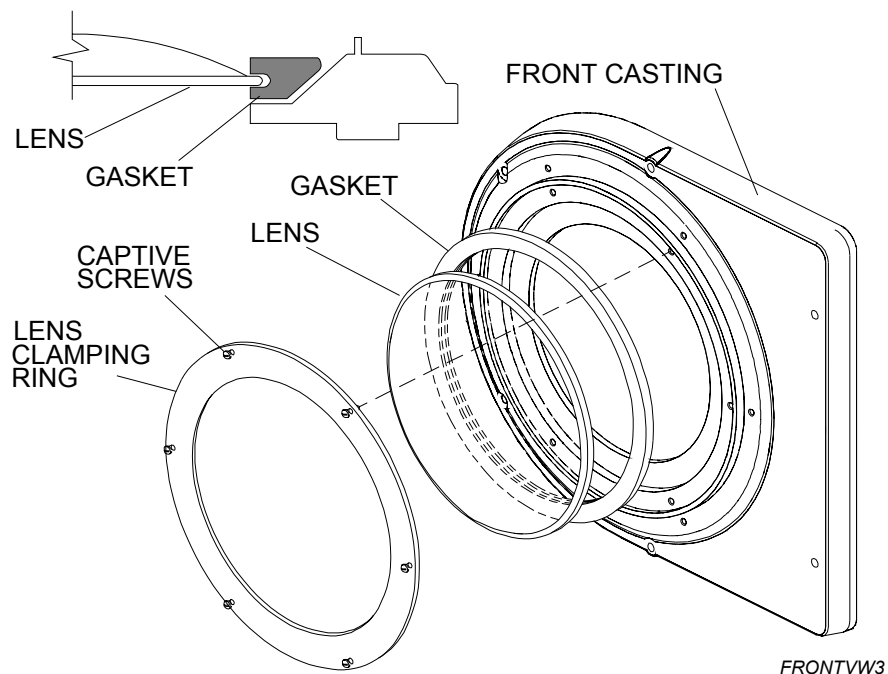

Figure 7.12 - Lens Assembly Removal and Installation
6. At old front casting, loosen six 8-32x11/16" PPSS captive screws securing lens assembly to casting. Remove lens assembly (Figure 7.12).